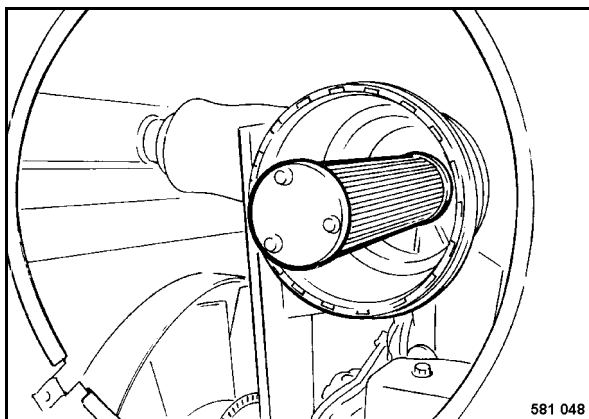

Fig. 109
- Pull the safety element (Fig. 109) out by turning it lightly.